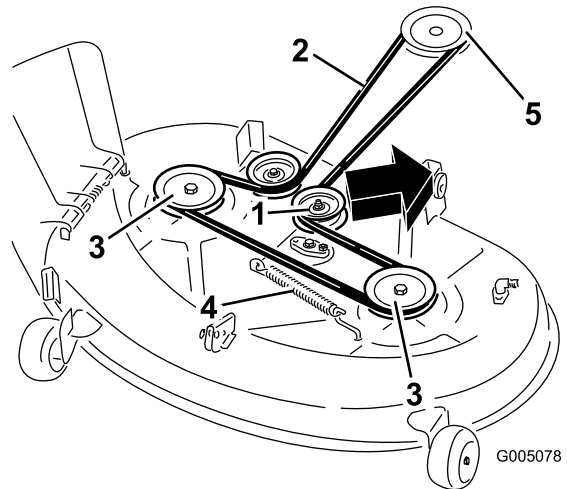

Figure 45
5. Pull the idler pulley in the direction shown in Figure 45 and roll the belt off of the pulleys.
6. Route the new belt around the engine pulley and mower pulleys (Figure 45).
7. Pull the idler pulley in the direction shown in Figure 45 and route the belt onto the idler pulley (Figure 45).